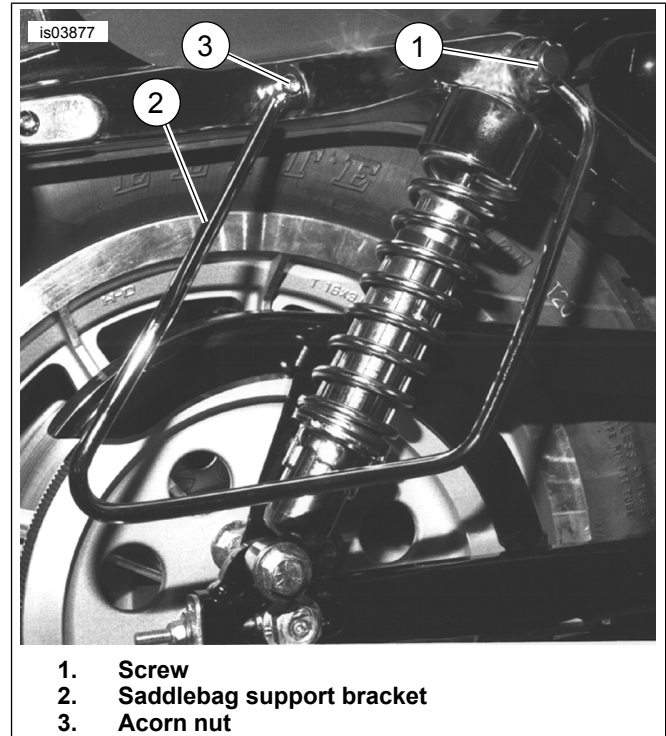

Figure 1. Soft Saddlebag Support Bracket Installation
3. See Figure 1. Remove the frontmost O. E. button head bolt and nut (at 3) from the fender support cover. **On 2000-2003 models**, discard the bolt, but retain the nut for later installation. **On 2004 and later models EXCEPT XL1200N**, discard the bolt and nut. **On XL1200N models**, discard the bolt, but retain the nut for later installation.